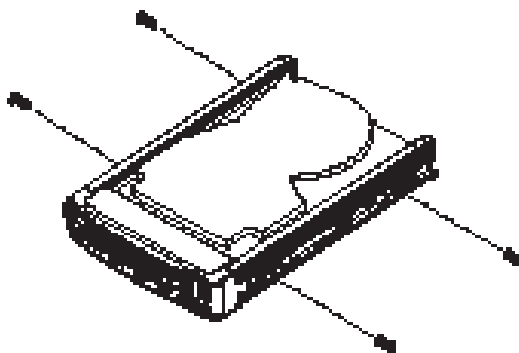

Figure 6-12. Securing Drive
5. Secure the hard drive to the carrier using four screws (Figure 6-12).